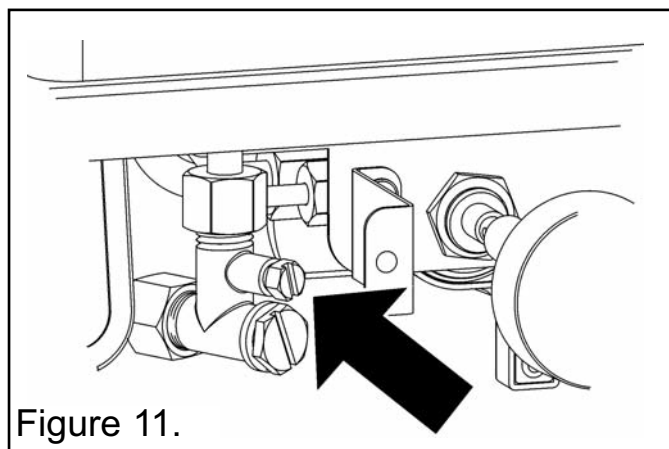

Figure 11.
- Check the inlet pressure by fitting a pressure gauge at the test point. The test point is on the inlet 'T' connector (See figure 11). Check the pressure with the appliance alight and set at maximum output.